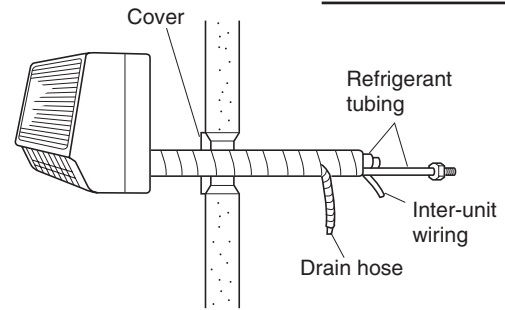
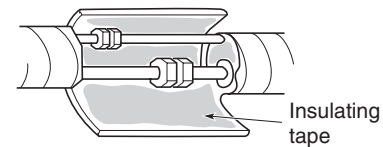

Fig. 1-79
Fig. 1-80
- (1) Shape the refrigerant tubing so that it can easily go into the hole. (Fig. 1-79)
- (2) Push the wiring, refrigerant tubing and drain hose through the hole in the wall. Adjust the indoor unit so it is securely seated on the wall fixture.
- (3) Carefully bend the tubing (if necessary) to run along the wall in the direction of the outdoor unit and then insulate to the end of the fittings. The drain hose should come straight down the wall to a point where water runoff will not stain the wall.
- (4) Connect the refrigerant tubing to the outdoor unit. (After performing a leak test on the connection, insulate it with insulating tape. (Fig. 1-80))